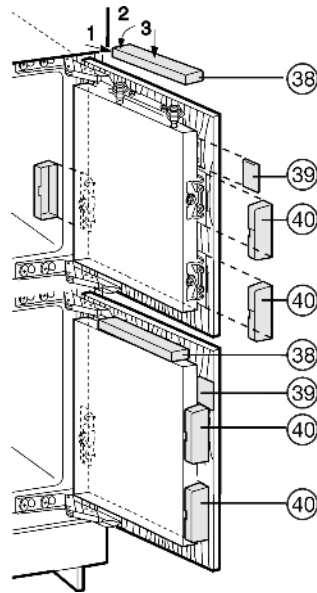

Fig. 31
- ▶ Position upper covers *Fig. 31 (38)* and snap into place.
- ▶ Place lateral covers *Fig. 31 (39)* in position, slide them to the limit, then press, until you hear them snap into place.
- ▶ Attach covers *Fig. 31 (40)* to the side and then draw them forwards with a screwdriver so that they snap into place.